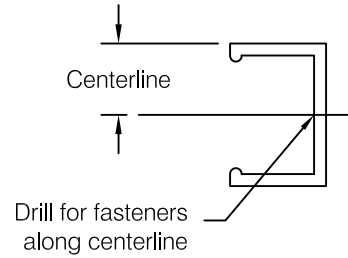

fig 2
- Step 3:** Pre-drill clearance holes in aluminum retainer along the centerline of the retainer using a #15 (.180”) bit for #8 fastener or a #7 (.201”) bit for #10 and 3/16” fasteners, see **fig 2**. Space holes at 32” on center. Adjust spacing to accommodate studs as necessary. Do not pre-drill at locations that will interfere with installation of molded accessories.